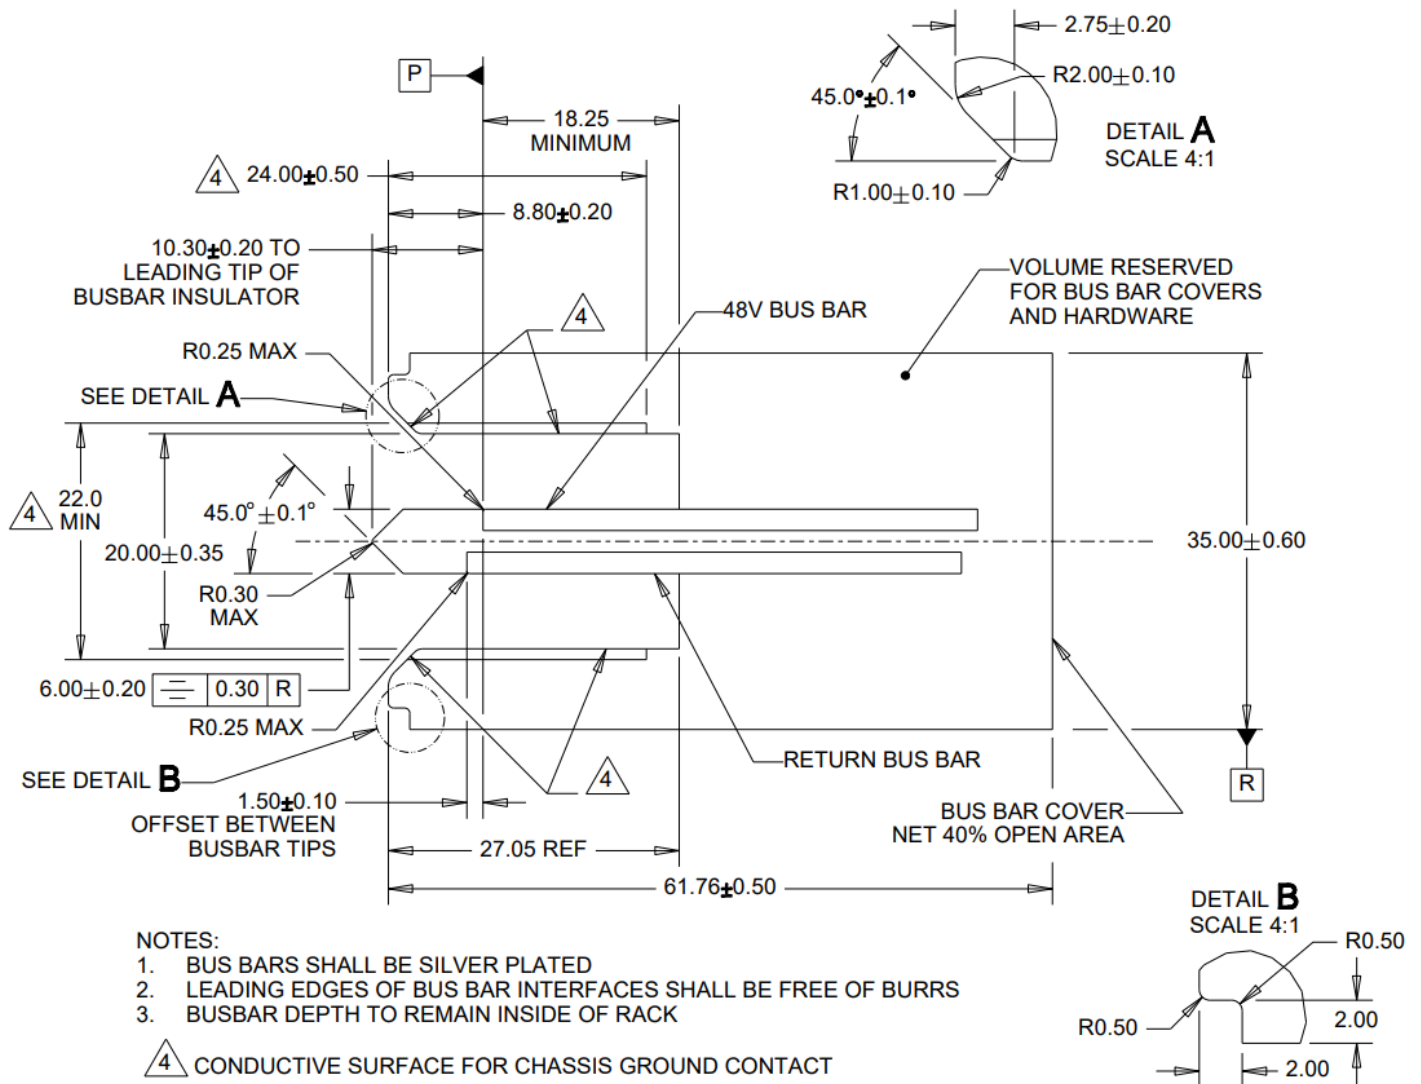

Figure 7: ORv3 Busbar Mechanical Detail
- The connector shall support blind-mate installation of the IT Gear onto the 48V busbar (figure 7) as defined in the Open Compute Specification Revision 3.0.